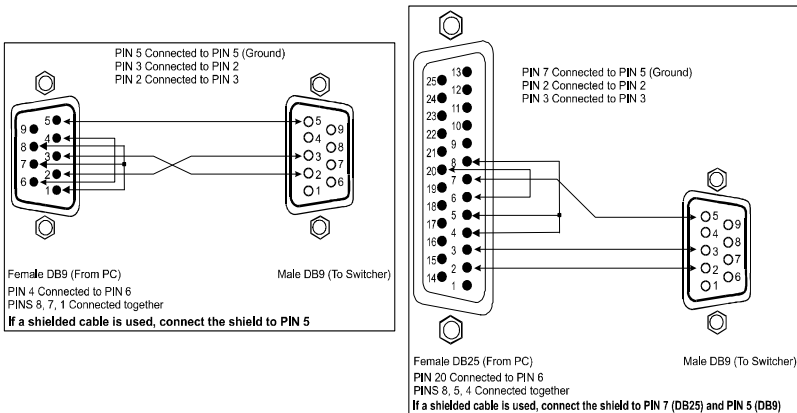

Figure 6: Connecting a VA-8xl or VA-16xl to a PC without using a Null-modem Adapter
- Connect the RS-232 DB9 port on your PC to the RS-232 DB9 rear panel port on the **VA-8xl** or **VA-16xl** unit, as Figure 6 illustrates (depending on whether the PC has a 9-pin or 25-pin connector)